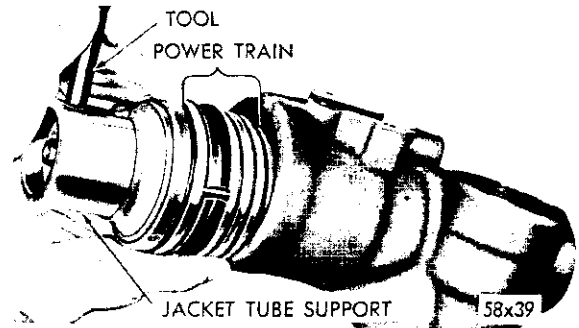

Fig. 34—Removing the Power Train (Typical)
(9) Firmly install a suitable drift through the hole in the jacket support to engage the groove in the worm shaft, thereby locking these two parts together (Fig. 34).
(10) While holding the drift, pry on the piston teeth with a screwdriver using the gear shaft as a fulcrum and remove the complete power train.